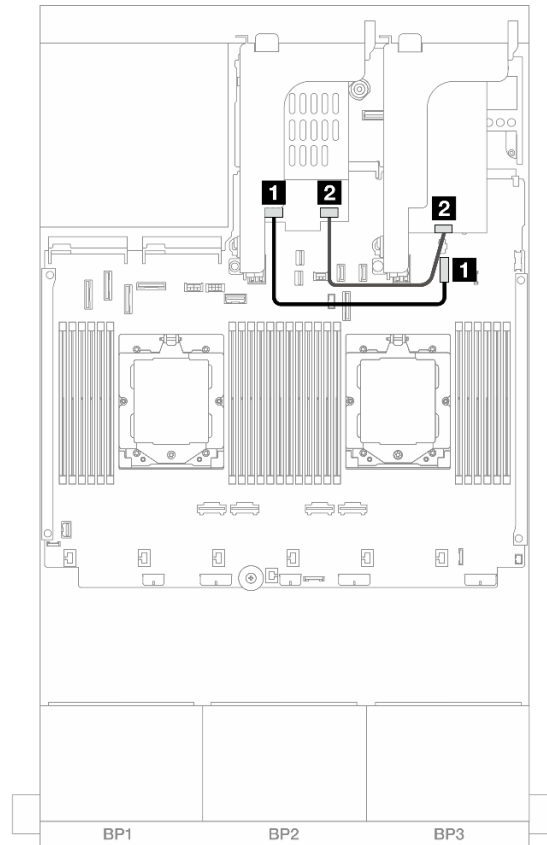

Figure 248. RAID cable routing
- Figure 248 “RAID cable routing” on page 248